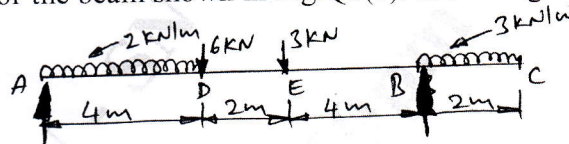

Fig.Q6(b)
- b. Draw SFD and BMD for the beam shown in Fig.Q6(b). Indicating the principal values.